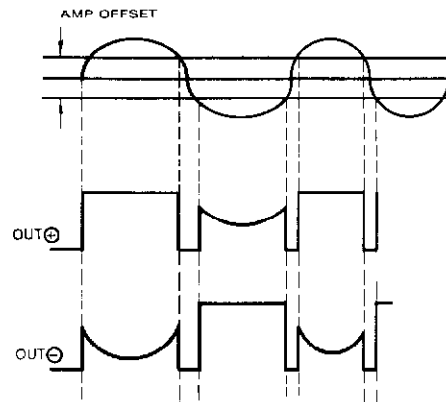

Fig. 7
3. Practical output waveform is illustrated in Fig. 7. While output is switching from positive to negative, the status becomes OPEN (This is due to the existence of the amplifier offset). During this period, since the impedance at the IC side becomes high, the output current is determined by external parameters. In general, the load is inductive and a capacitor is connected to the external port to prevent backlash voltage generation.